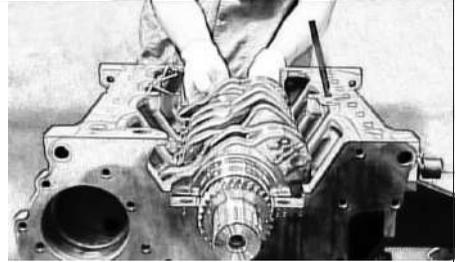

Fig 5-4 Crankshaft Installation
1.4 Before installing crankshaft, check screw plugs and tighten them firmly. Heat crankshaft gear to 100°C, then install it on front of spindle of crankshaft. Coat some oil on main bearings and connecting shafts, then install crankshaft into cylinder block (see Fig 5-4).